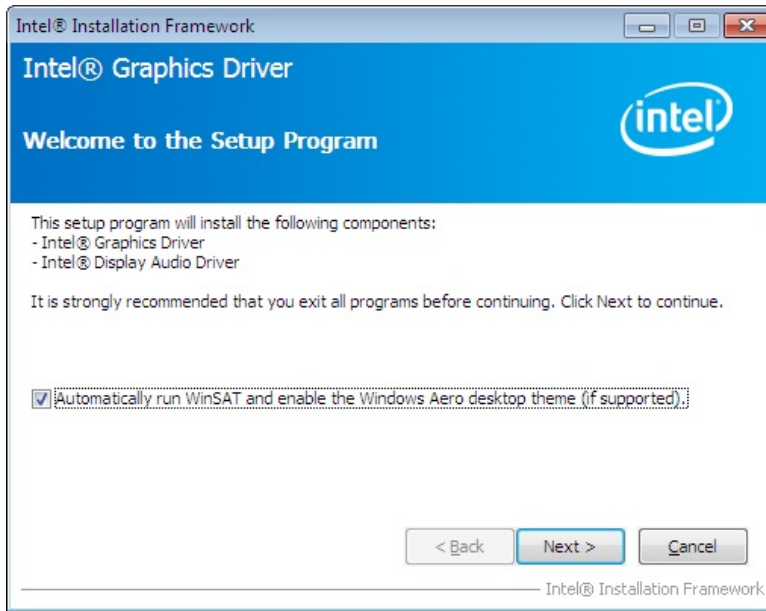

Figure 6-9: VGA Driver Welcome Screen
Step 6: When the setup files are completely extracted, the **Welcome Screen** in Figure 6-9 appears. Click **Next** to continue.